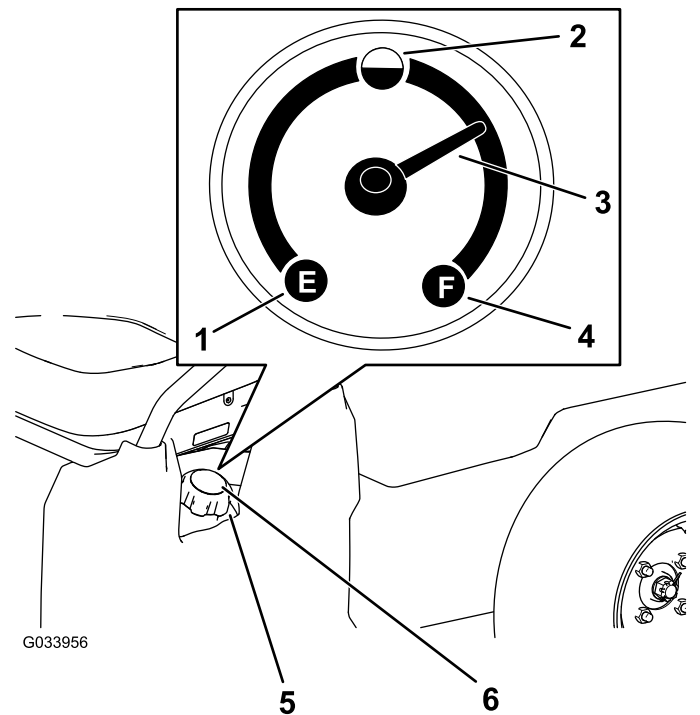

Figure 12
5. Clean the area around the fuel-tank cap (Figure 12).